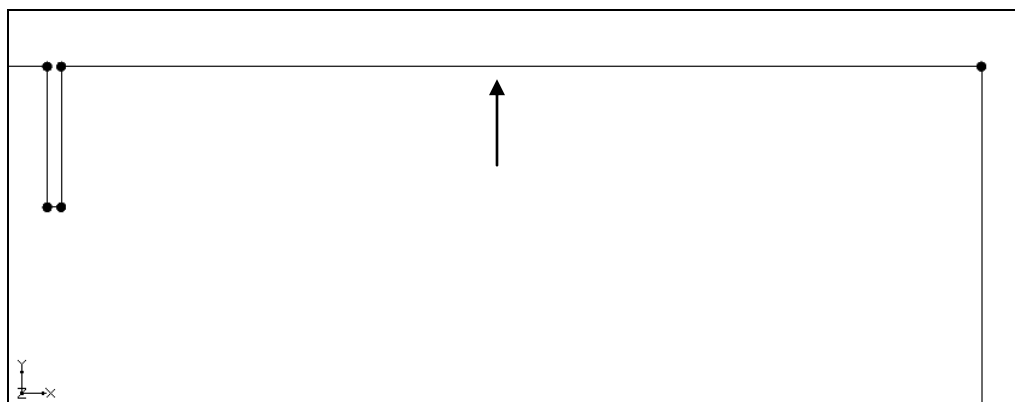

Figure 7 Create the final arc
7. Create the arc indicated by the arrow in Figure 7. Notice there is no arc across the top of the sheet pile.